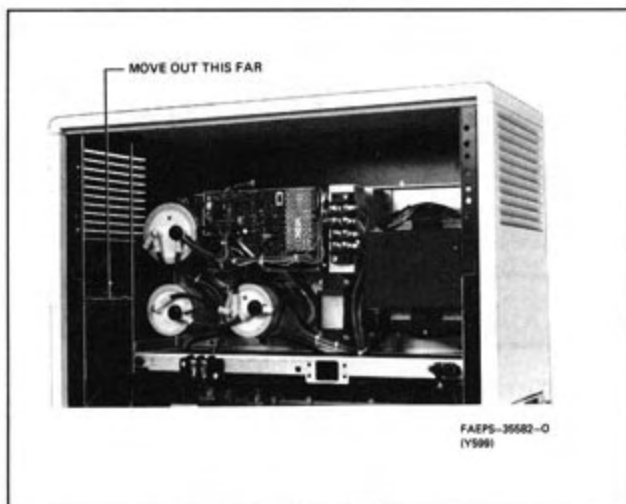

Figure 5. Power Supply Chassis Travel Distance
Step 3. Slide power supply chassis forward until chassis is flush with cabinet, as shown in Figure 5.
Step 4. Grip the chassis with BOTH hands, as shown in Figure 5. Find a comfortable grip around the flattened parts of the metal. Adjacent parts have sharp edges.
Note wrist position in Figure 5.